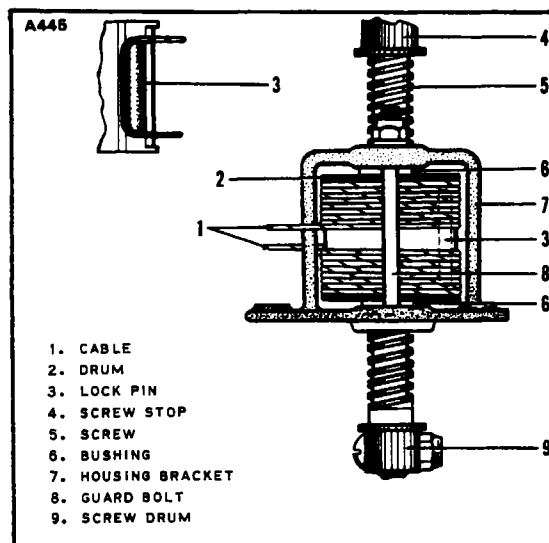

Figure 5-13. Trim Screw Assembly
5-48. WRAPPING TRIM DRUM. (Refer to Figure 5-13.) All trim drums are wrapped basically by the same procedure and must be removed from the airplane.
a. Mark the end of the drum (2) toward the base of the housing bracket (7) for a reference when later installing and wrapping the cable on the drum.
b. With the drum housing bracket (7) firmly held, remove one of the cable guard bolts (8) from the housing bracket.
c. Remove the drum screw (5) from the trim screw assembly. The screw (5) is removed by removing the stop (4) located on the end of the screw, opposite the base of the housing bracket. Turn the screw from the drum (2).
e. Unwrap the trim cable (1) and remove the cable and lock pin (3) from the drum. (If one end of the cable has been marked to facilitate hook-up of the cable ends, note this location in relation to the drum when installing a new cable on the drum.)
f. Check the condition of the bushings (6) in the housing bracket for excess wear.
h. Insert the center of the cable into the cable slot in the drum and install the lock pin (3).
i. Hold the drum (2) with the previously marked or base end of the drum down.
k. Insert the drum in the housing bracket, position the drum and route the cables from the assembly as shown in Figure 5-13.
l. Install the screw (5) and screw stop (4) and secure with the roll pin (3).